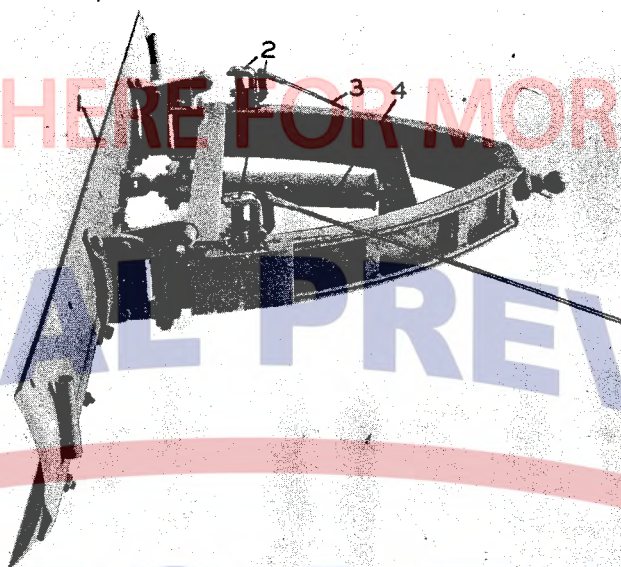

Figure 7—Moldboard and "A" Frame Assy.
(28) **MOLDBOARD AND "A" FRAME ASSEMBLY**—The moldboard with blade attached, and the "A" frame, (figure 7) are suspended from beneath the chassis. The moldboard is bolted to two extension members which telescope into the "A" frame members. The top ledges of the moldboard telescoping members and the "A" frame are drilled with a series of holes and by the application of foot operated spring locking pins, one located at each side of the "A" frame. The moldboard telescoping members may be hydraulically shifted in the "A" frame and instantly locked in any position from straight across (right angles to the frame) to 44 degrees at either side, right or left. The moldboard length is 9 ft., height 13½", thickness ½", blade clearance in "up" position 9", cutting depth of blade (below ground level) is 9½", total angularity of blade 88 degrees. The "A" frame is pushed from the rear through a ball-and-socket joint attached to the rear end of chassis. The moldboard and blade may be operated regardless of whether maintainer is traveling, or standing still.